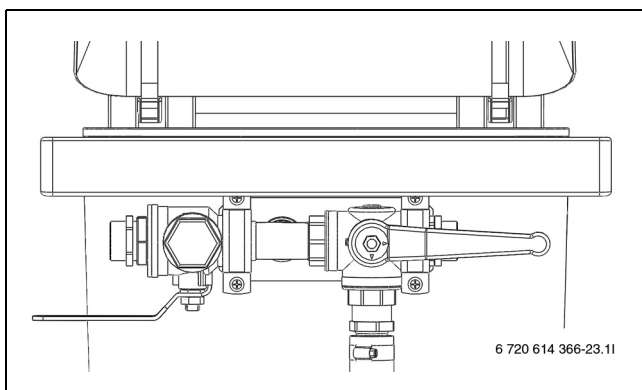

Fig. 25 Filling unit in filling position
- ▶ Turn the valves on the filling station to filling position and fill the circuit with collector circuit fluid (→ Figure 25).